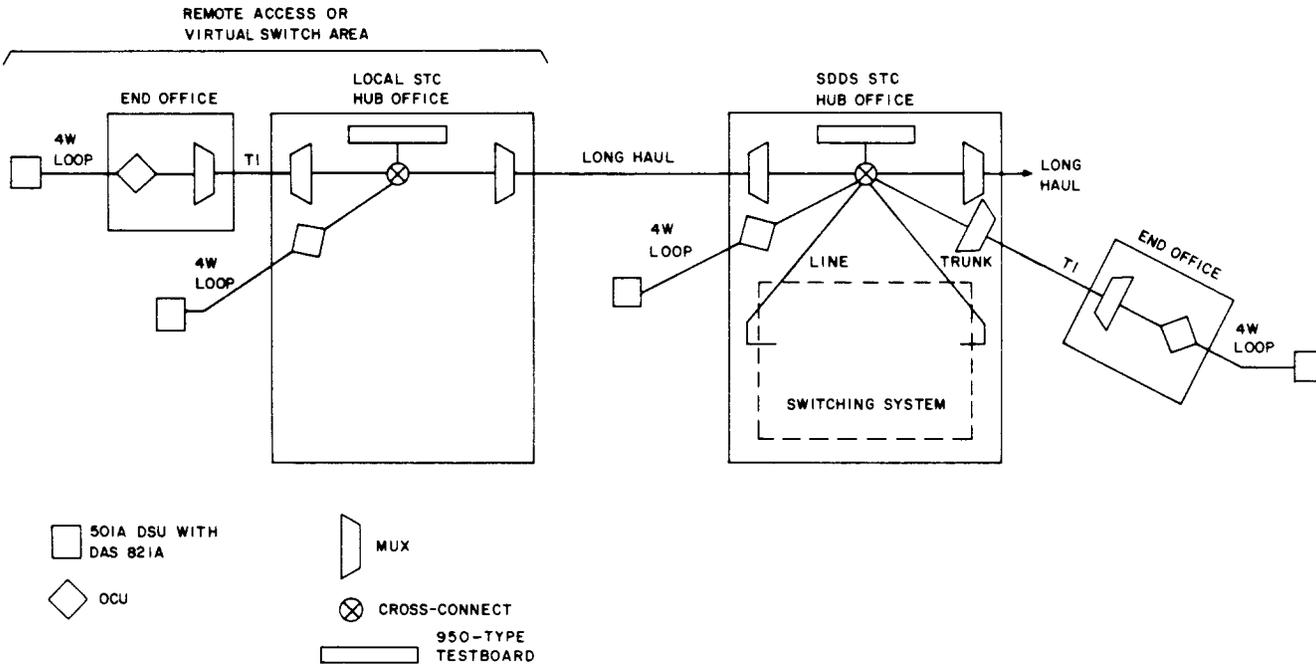

Fig. 1—SDDS Circuit Arrangement
**2.01** A customer circuit may involve either one or two STCs as shown in Fig. 1. If the circuit involves two STCs, the switched digital data system (SDDS) hub office STC, that is the STC at the switch location, is the control STC and will provide overall coordination of the turn-up procedures. The control STC has specific responsibility for turn-up of the inter-STC facilities. The second STC (local) coordinates turn-up of the circuit to the customer station. If a customer circuit involves only the STC at the switch location, then that STC is the control STC and it coordinates all turn-up procedures.